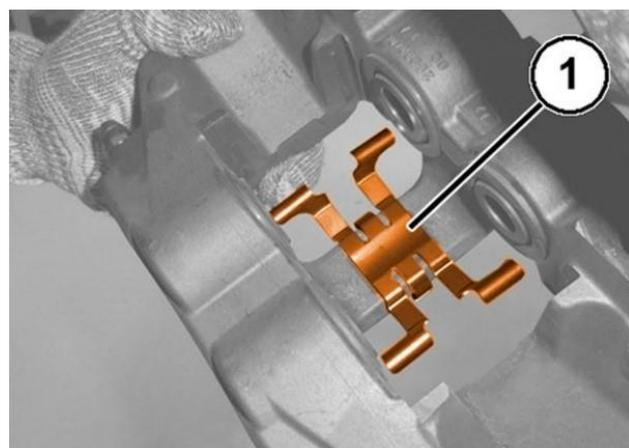

Figure 10 – Retaining Spring
- 31. Remove and **DISCARD** the brake caliper retaining clip (1) (Figure 10).